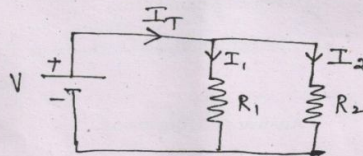

Fig. 2
- (b) (i) Find the magnitude of total current (I_T) and also find out current and voltage drop across the resistors as shown in the Fig. 2. Assume $R_1 = 100\Omega$, $R_2 = 20\Omega$ and $V = 50V$.